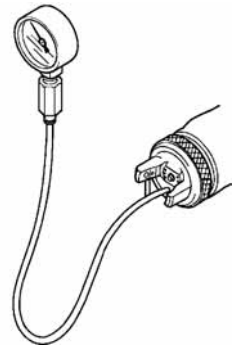

Figure 17 – Air Cap Test Kit
6) If using HVLP, using an "Air Cap Test Kit" verify that the air cap pressure is not above 10 psi, if required by a regulatory agency (see figure 17).